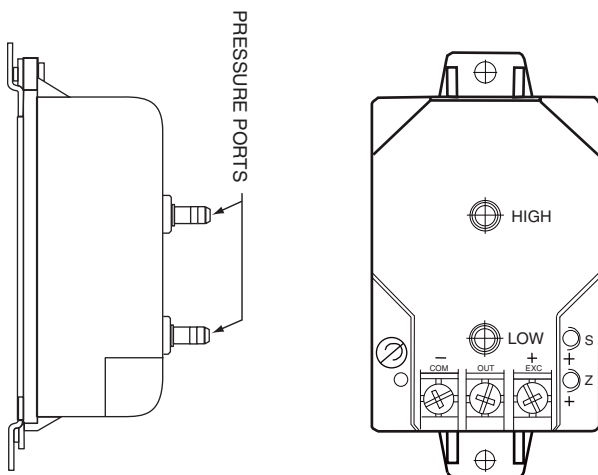

Fig. 18 — Building Pressure (BP) Transducer
6. Connect LOW tap of transducer to ambient location tap on unit using the control tube provided. Install field-supplied “tee” as required. See Fig. 18 and 19 for building pressure transducer example and tap location.